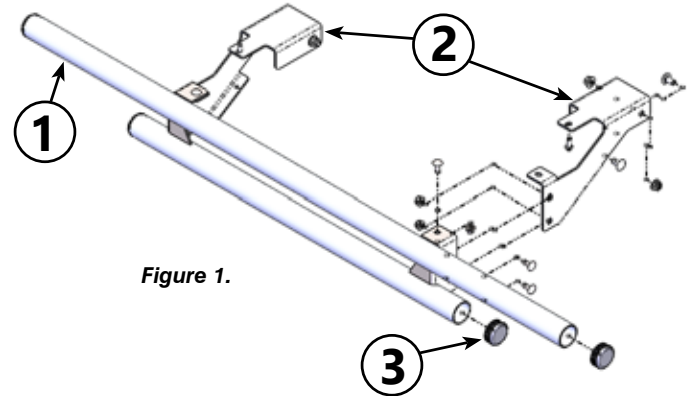
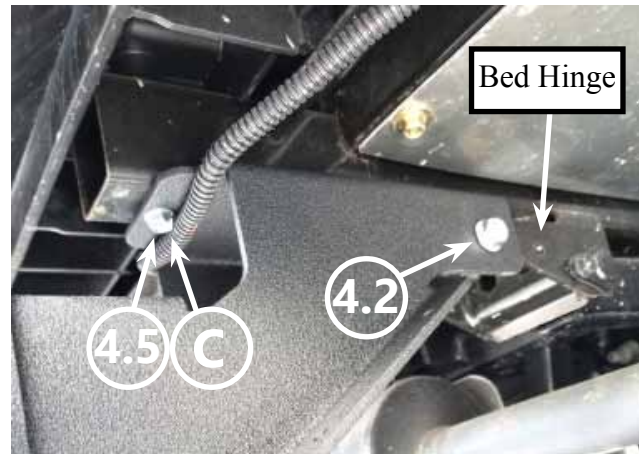

Figure 1.
Figure 3. - Passenger Side
1. Assemble tube caps (3) to bumper tubes (1) as shown in Figure 1.
4. Maneuver the bumper brackets (2) into position by sliding them over top of the wiring harness and onto the bed hinges as shown in Figure 3.
5. Hold the bumper bracket in place and run 4x 3/8"-16 x .75" (4.1) carriage bolts through the square slots in the frame and holes in the bumper brackets (2). Bolt heads will be on the inside of the bracket.
6. Loosely fasten 3/8" Hex Flange Nylock Nut (4.2) as shown in Figures 1 & 3. Do not tighten.
7. Run 2x Self-Tapping screws (4.5) up through location (C) and into the box frame as shown in Figure 3. Turn until hand-tight only! Do not over-tighten or you may strip the hole.